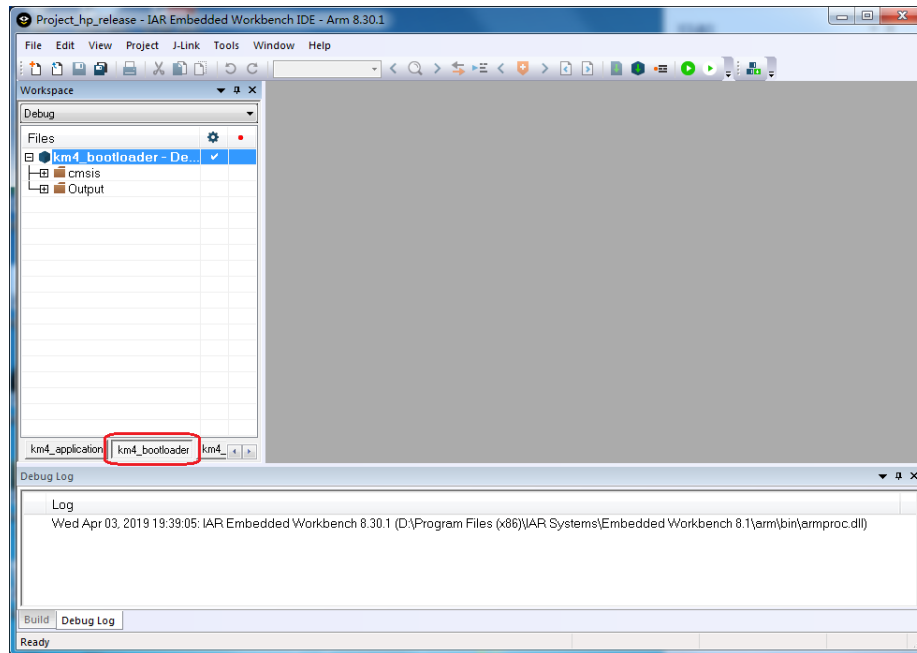
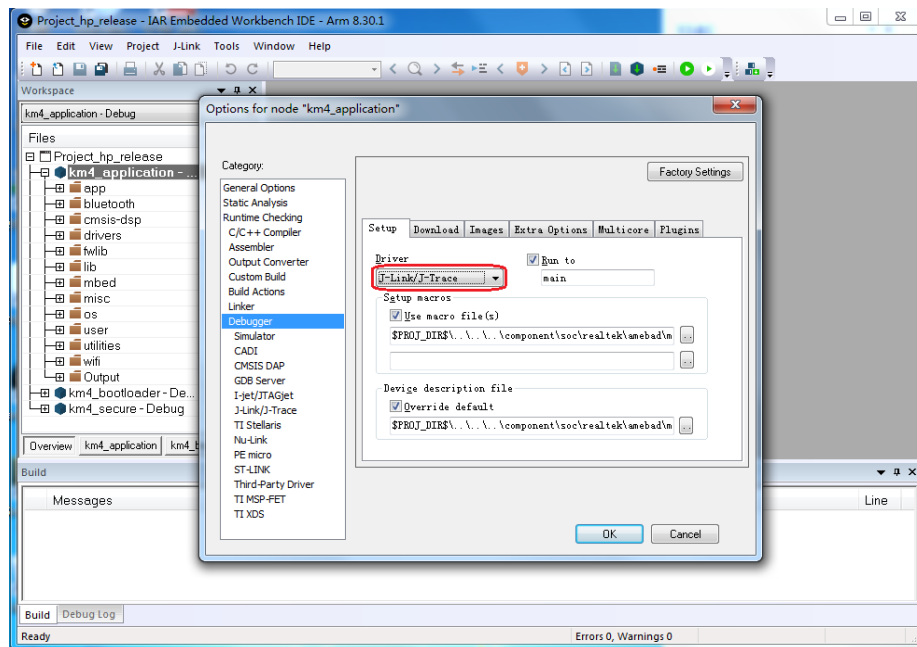

Fig 1-10 Switching to the target project view
Fig 1-11 J-Link debugger setup
- (1) Choose the target project display in Workspace window, for example, km4_bootloader as Fig 1-10 shows.
- (2) If using J-link debugger, check whether the J-link debugger setting is correct.
- a) Click **Project > Options > Debugger > Setup > Driver**, and choose "J-Link/J-Trace", as Fig 1-11 shows.